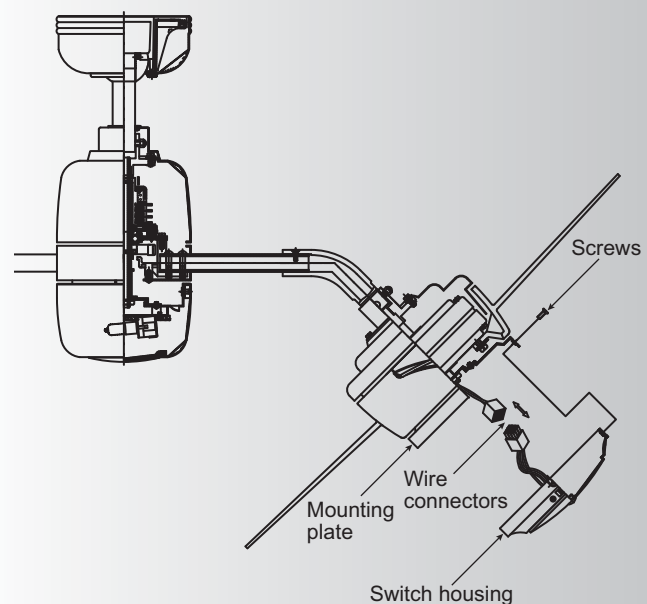

Fig. 21
Step 2. Carefully push all the wires into the switch housing. Attach the switch housing to the mounting plate with the screws provided. Make sure each screw is tight. (Fig. 21)